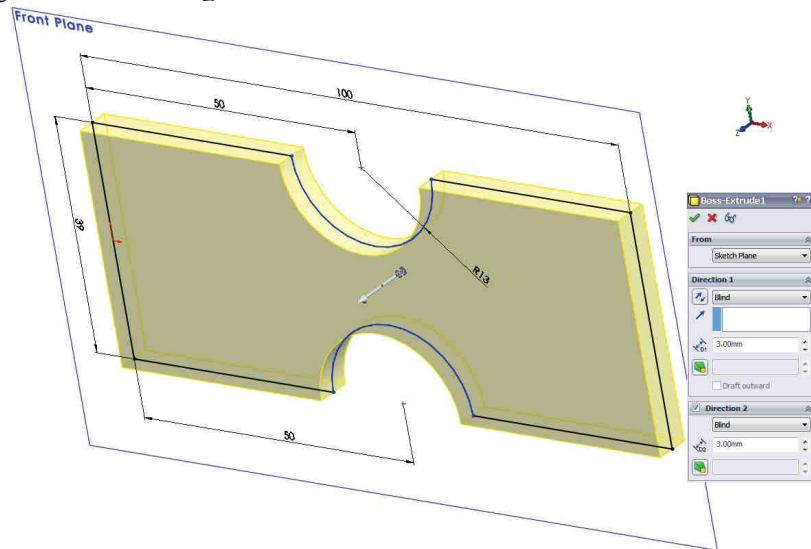

Fig. 10.6
- In caseta **Boss-Extrude** PropertyManager, sub zonele **Direction 1** și **Direction 2** se vor completa, fig. 10.6:
- In the PropertyManager, under **Direction 1 & Direction 2**, fig. 10.6: